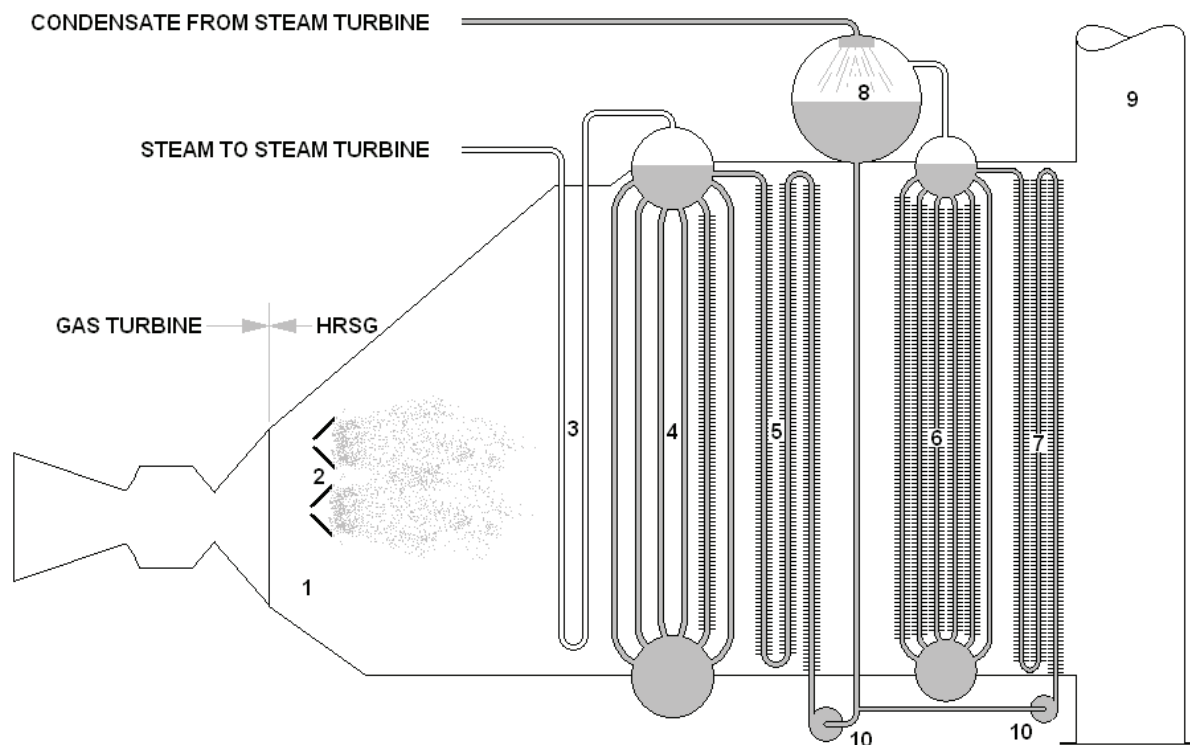

Figure 4-13. HRSG schematic
The HRSG is, for all practical purposes, a boiler plant combined in one package and is shown schematically in Figure 4-13. It consists of (1) a GT exhaust duct that conveys the turbine exhaust to, and distributes the exhaust into the first stages of the boiler portion. A duct burner (2) provides additional heat to the boiler section. The superheater (3) raises the temperature of the steam as described for utility plants before continuing to the steam turbine. A HRSG could contain a reheater and although I haven't seen one I can imagine a HRSG having a duct burner between a superheater and reheater to increase reheat. The boiler (4) generates the steam that supplies the superheater from the feedwater heated by the high